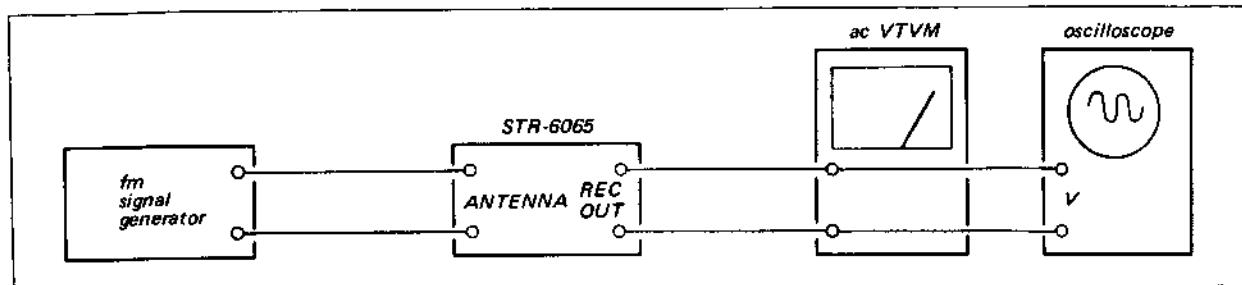

Fig. 3-3. Fm i-f, muting and front end alignment test setup
1. With the equipment connected as shown in Fig. 3-3, set the signal-generator's controls as follows:
1. With the equipment connected as shown in Fig. 3-3, set the receiver's controls as follows:
2. Connect the equipment as shown in Fig. 3-3.